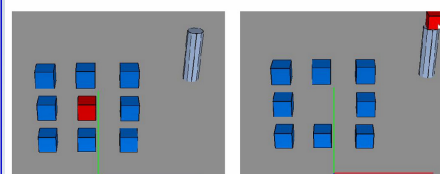
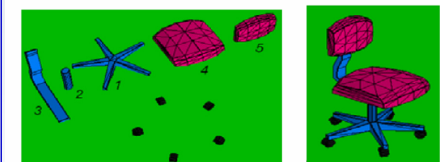

Figure 6 – Start and target scene for cube placement task.
Figure 7 – Start and target scene for chair assembly task.
- 2 scene assembly tasks (Fig. 6 and Fig. 7)